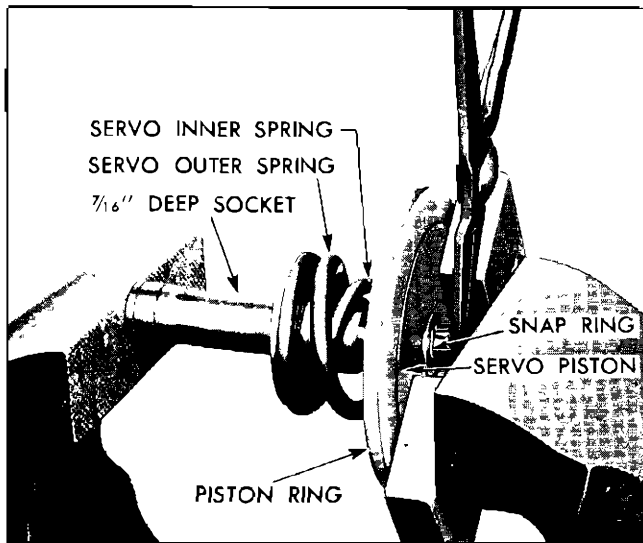

Fig. 98 Method of Removing Snap Ring from Servo Piston Pin
1. Place a  $\frac{1}{16}$ " deep socket over the long end of the servo piston pin (Fig. 98).
2. Position a "U" shaped spacer against the piston end of the piston assembly and place the socket, piston assembly and "U" shaped spacer between the jaws of a bench vise (Fig. 98).
3. Place the assembled servo components with a  $\frac{7}{16}$ " deep socket over the piston pin and "U" shaped spacer against the servo piston into a vise and, aligning pin carefully, compress the assembly to allow the flat washer and snap ring to be installed (Fig. 98).